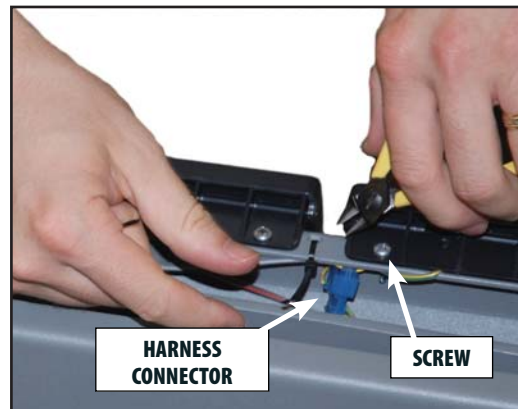

FIGURE 6.32
5. Using small Diagonal Cutters, clip the Cable Tie between the two Elevation Foot Pedals. Refer to **Figure 6.32**.
NOTE: The Cable Tie in this location is used to keep the Connector away from the Screws. Always secure the Cable Tie to the right of the Connector. Refer to **Figure 6.32**.